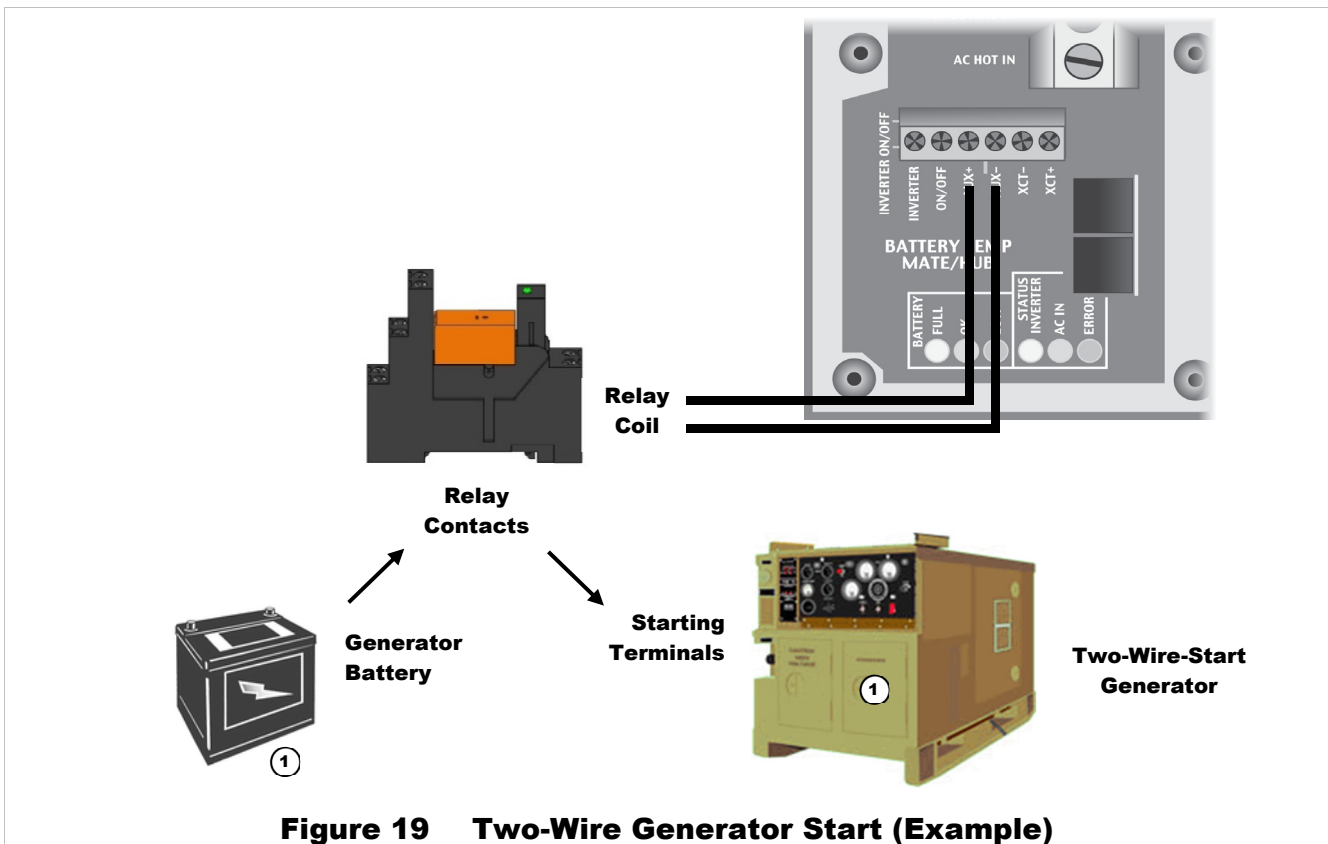

Figure 19 Two-Wire Generator Start (Example)
The OutBack FLEXware Relay Assembly depicted in Figure 19 is sold for this purpose. The relay contacts can serve in place of the generator’s start switch. The battery shown below (①) is depicted for clarity. In most cases the battery is part of the generator’s internal starting circuit and is not an external component.